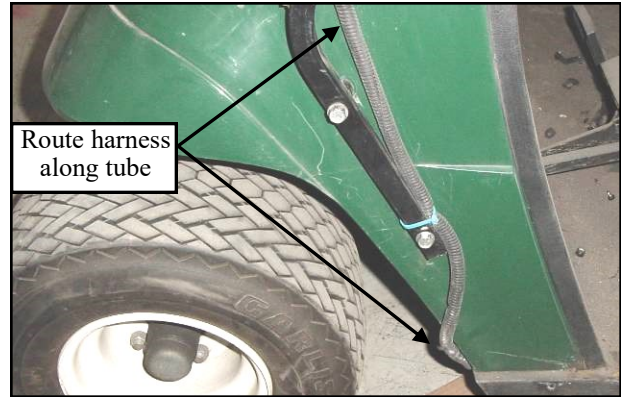

Figure 3.6 (view from driver's side)
3.6 Per fig. 3.6, continue routing the wire harness down the roof support tube and under the fender. Note: you can drill a 1/2" hole in the body panel and route the wire harness through and inside the fender. **CAUTION: before drilling, make sure there is sufficient clearance underneath the fender.**